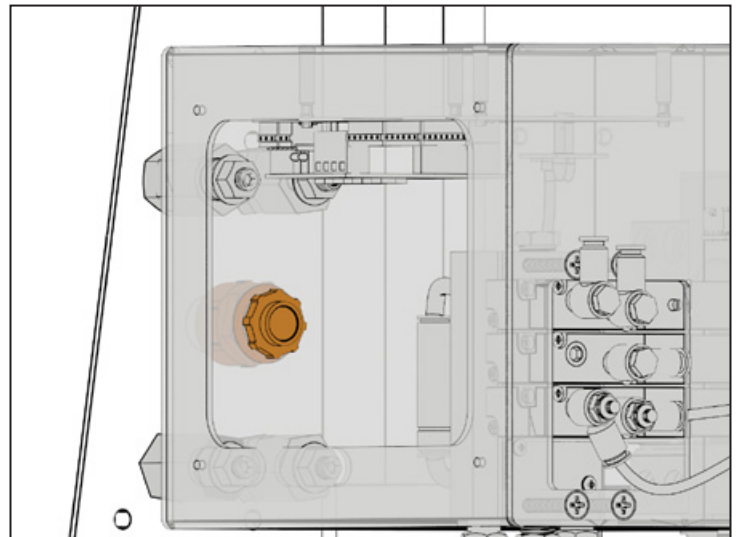

Figure 16
5. From inside the motor enclosure, tighten the plastic wire plug against the mill's Z-column (see **Figure 16**).